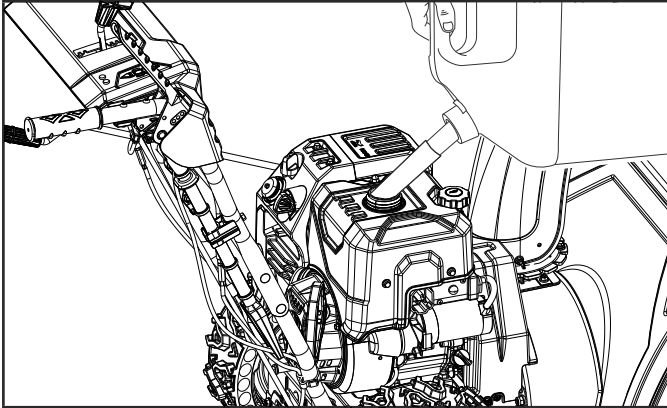

Figure 13
2. Add fuel to the bottom of the fuel level limit in the neck of the fuel tank. Do not overfill. Wipe up spilled fuel before starting the snowblower. (Fig. 13).